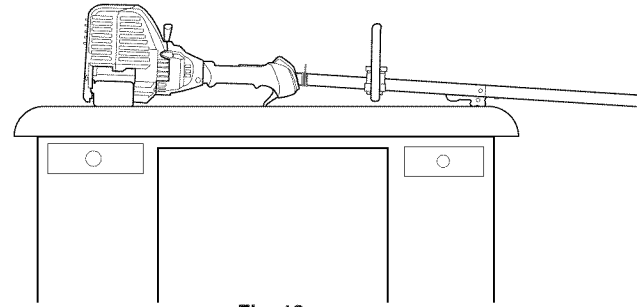

Fig. 18
2. **Set the unit on a flat, level surface**, such as a workbench or table. The cutting head shield should hang over the edge so that the engine is level (Fig. 18).